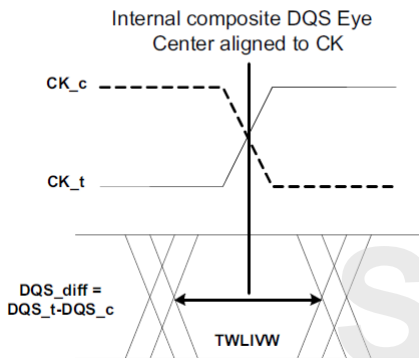

Figure 25.  $DQS\_t/DQS\_c$  to  $CK\_t/CK\_c$  timings at the DRAM pins referenced from the internal latch
28)  $t_{WLIW}$  is defined in a similar manner to  $t_{DIVW\_Total}$ , except that here it is a DQS input valid window with respect to CK. This would need to account for all VT (voltage and temperature) drift terms between CK and DQS within the DRAM that affect the write-leveling input valid window. The DQS input mask for timing with respect to CK is shown in Figure 25. The "total" mask ( $t_{WLIW}$ ) defines the time the input signal must not encroach in order for the DQS input to be successfully captured by CK with a BER of lower than  $t_{bd}$ . The mask is a receiver property and it is not the valid data-eye.